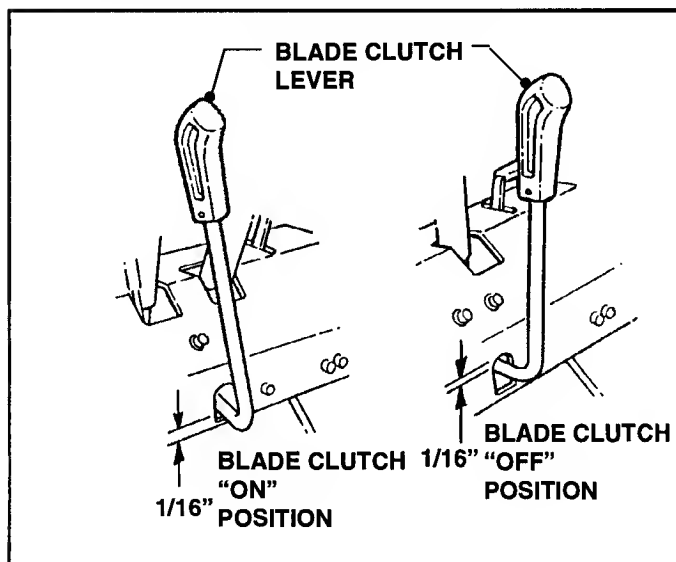

FIGURE 5.9
- A.** Check clearance between the Control Console and the Blade Clutch Lever while the lever is in the **ON** position, then the **OFF** position. There should be 1/16" clearance in each position. See Figure 5.9.